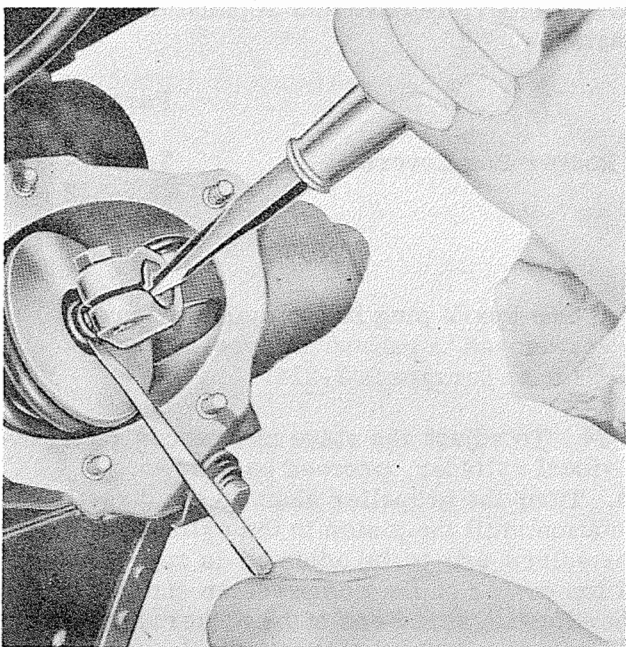

Figure 7-13. Adjusting Valve Clearance
- c. Insert the .010 inch gage of feeler gage assembly 806890 between the valve tip and the adjusting screw and turn down on the adjusting screw with a broad blade screwdriver. See figure 7-13. When any further turning of the screw would open the valve slightly, there will be an appreciable increase in torque and the feeler gage will be tightly clamped. Loosen the screw only enough to allow the feeler gage to be withdrawn.